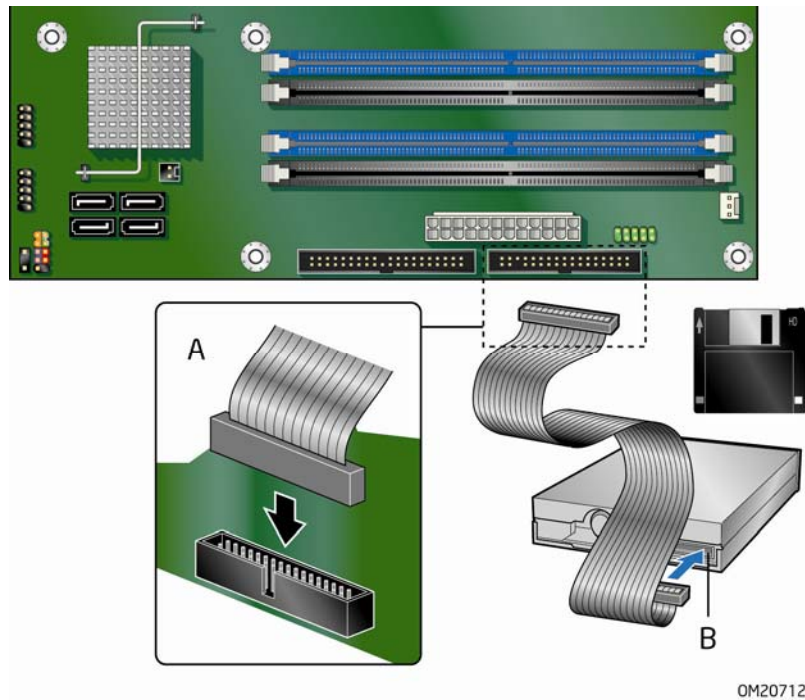

Figure 20. Connecting the Diskette Drive Cable
- Attach the cable end labeled P1 to the diskette drive connector on the Intel Desktop Board (Figure 20, A).
- Attach the cable end labeled P2 to the diskette drive (Figure 20, B).